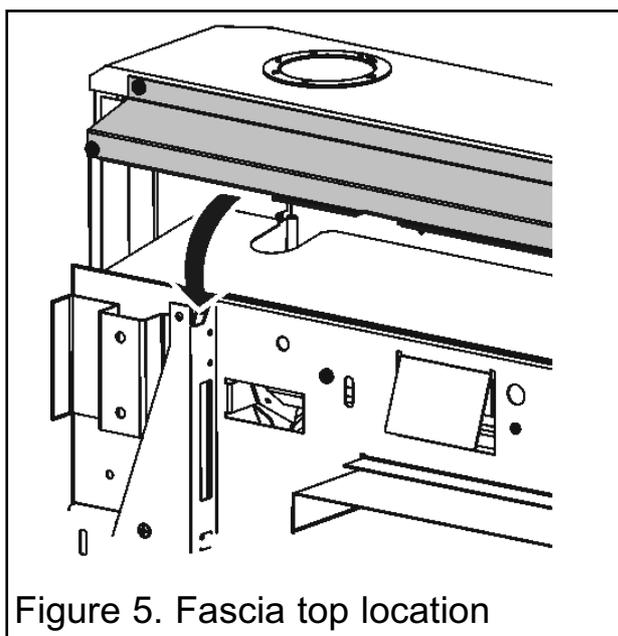

Figure 5. Fascia top location
10. Place the fascia over the engine. Make sure that the top rear of the fascia locates fully into the 'U' shaped notch of the engine back panel (See figure 5).
1. Fire serial number and fascia code (The serial number can be found on the serial number label - See figure 5 on page 39).